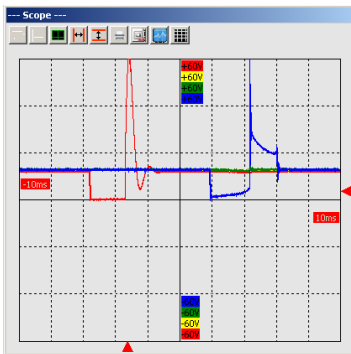
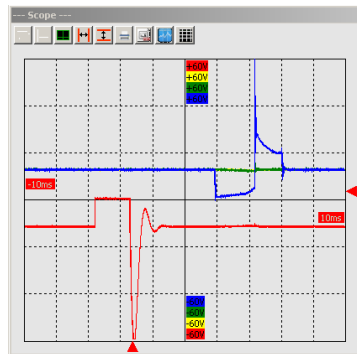

Figure 7.6
Figure 7.7
6. By clicking on this icon you can invert the input signal of the given channel; not inverted on Figure 7.6 and inverted on Figure 7.7.